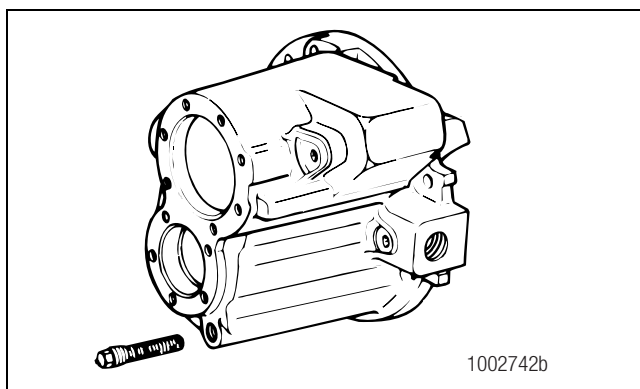

Figure 3.37
11. Remove the oil screen and plug assembly from the suction line at the front of the carrier. Figure 3.37.